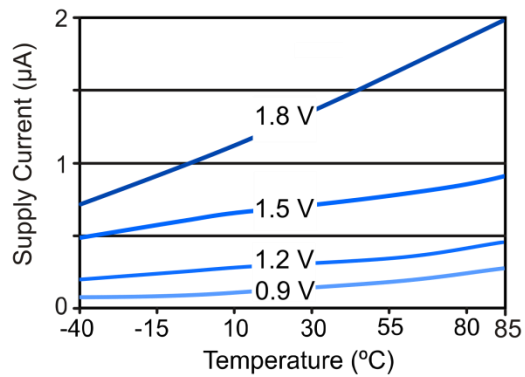

Figure 4. Supply Current versus temperature for VDD between 0.9 V and 1.8 V
- 2) Value at 25°C, see Figure 4 for IDDQ temperature dependence